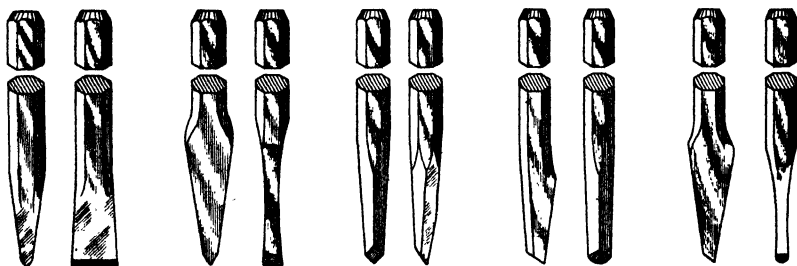

Fig. 4. Common Forms of Hand Chisels
**Chisel Types.** Common forms of hand chisels are shown in Fig. 4 in the following order from left to right: flat, cape, diamond, and two types of round nose.